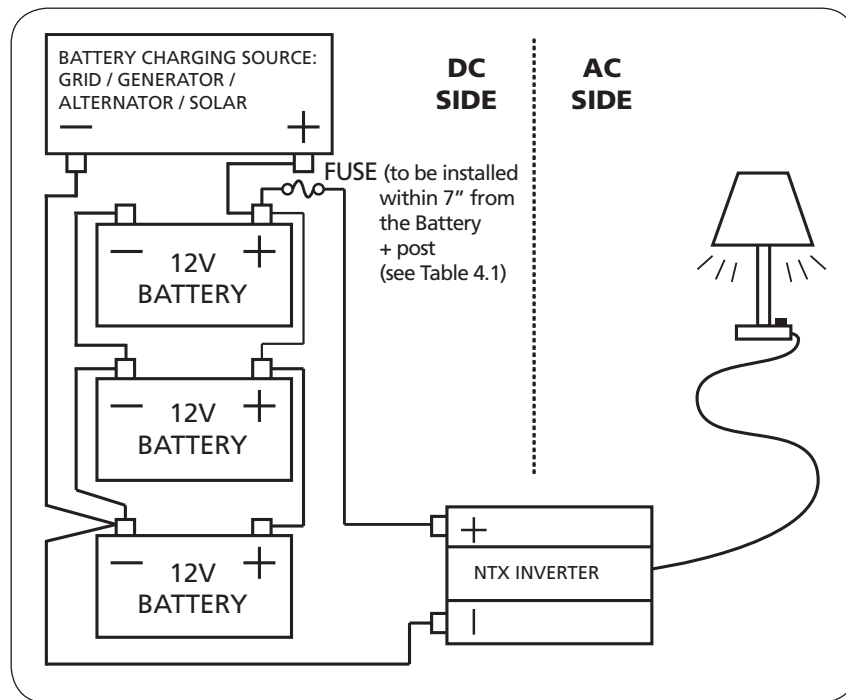

Fig 4.2 Connecting to a 12V Battery Source
The inverter will provide you nominal 115 VAC when powered by a 12 VDC source such as is found in a vehicle or multiple battery configurations as shown in Fig 4.2. **This manual does not describe all of the possible types of battery configurations, battery charging configurations and battery isolation configurations.**
For normal operation of the inverter, the DC power source must provide  $>11.0 \pm 0.3V$  and  $< 15.3 \pm 0.3V$  and the required current. This DC power source must be a well-regulated DC power supply or alternator and deep cycle battery system typically found in vehicles. The DC power source may also be two or more 12 volt batteries connected in parallel. On larger applications, the power source may be several batteries connected in parallel as shown in Fig 4.2.
It is mandatory to install appropriate size of external DC Fuse as close to the Battery Positive Post as possible, preferably within 7 inches to protect against fire hazard due to short circuit along the battery cable run (See Fig 4.2). A battery is an unlimited current source that can supply thousands of Amperes of current under short circuit conditions. If a short circuit occurs in the cable run at a point between the battery and the inverter, the section of the cable from the battery to the point of short circuit will be fed with thousands of Amperes of current, the section of the cable will overheat / melt and is likely to cause fire. It is, therefore, recommended that the fuse / fuse assembly should have Ampere Interrupting Capacity (AIC) of at least 10,000 A. Class-T type of fuses are recommended as these fuse provide fast acting, current limited protection.
5. Install a fuse holder close to the Positive (+) terminal of the battery (or other DC source), preferably within 7" of the terminal (see Fig 4.2).